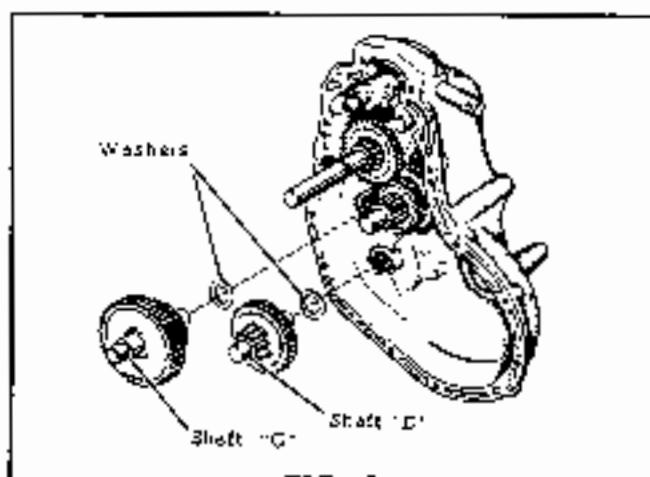

FIG. 3
4. Lift out shaft "C" with gear assembly and then remove shaft "D" with its gear assembly. See Fig. 3.